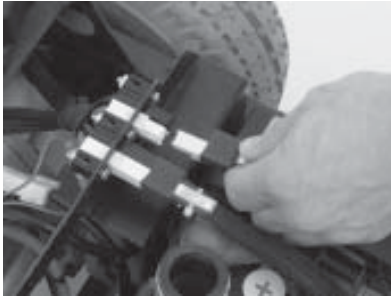

Figure 15. Battery Harnesses
6. Unplug both black and white 2-pin battery harnesses. See figure 15.